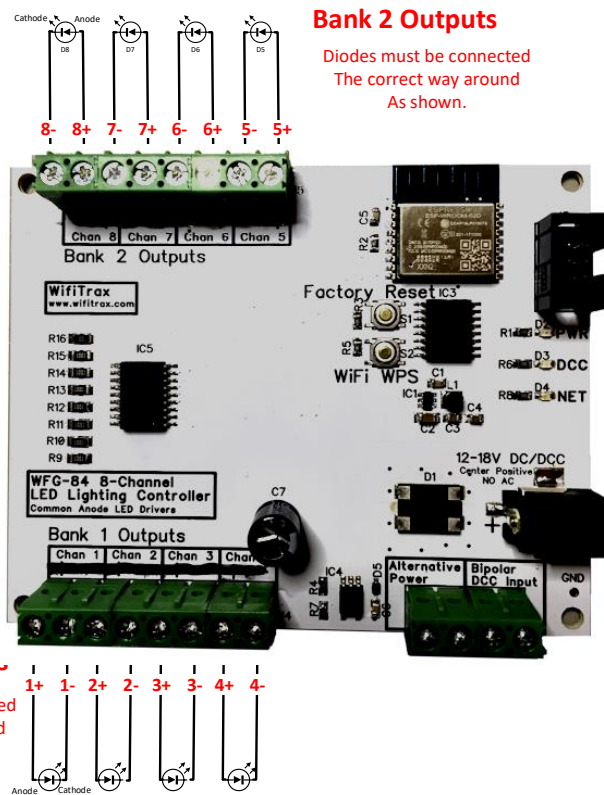
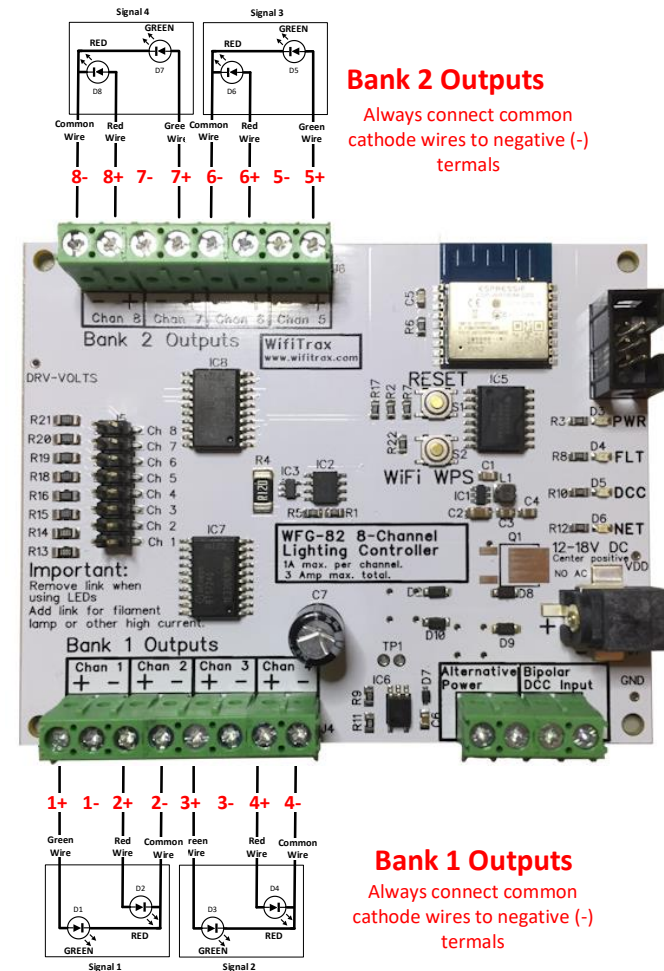
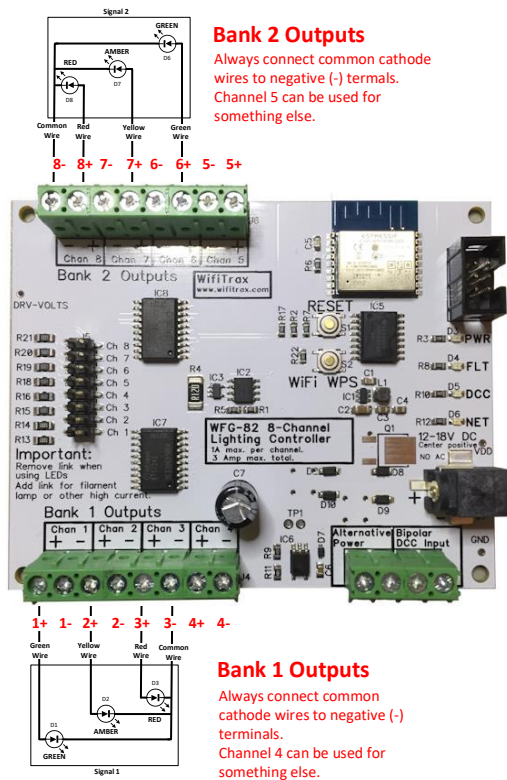

Figure 2. Connection Diagram for LED Lights or filament lamps
Figure 3. Connection Diagram for 2-LED Signals with Common Cathodes
Figure 4. Connection Diagram for 3-Light Signals with common cathodes
Filament lamps are connected the same way as LEDs in Figure 2 but of course, the direction does not matter.
Some signals may contain multiple LEDs or filament lamps such as Red and Green or Red, Amber and Green. Usually one side of each LED will be connected together and to a common wire. WFG-82 only supports LED groups with *Common Cathodes*, i.e. the negative side is common. See Figure 3 and Figure 4. You can use the WFG-84 for those with common anodes.
If you have signals with multiple filament lamps with one side common, there is no such thing as a common cathode or anode. They will be wired the same way as Figure 3, but of course the direction is irrelevant.
- (2) Wire the WFG-82 to your lights or signals according to Figure 2, Figure 3 or Figure 4. If you have multiple types of devices, you can take account of more than one figure. Be sure to connect common wires to the negative side of each of the eight channels, i.e. the cathode of the LED. In the LED circuit symbol, the cathode is the bar as in Figure 2. With filament lamps, the direction does not matter.
- (3) The power adapter must supply between 12 and 18 Volts DC with a Barrel Plug (2.5mm I.D. x 5.5mm O.D. x 9.5mm). A recommended power adaptor is available from WifiTrax: <http://www.wifitrax.com/products/product-PA15-43-1-detail.html> You can also connect to the Alternative Power connectors. **DO NOT CONNECT POWER TO THE WRONG TERMINALS. THIS MAY DAMAGE THE UNIT BEYOND REPAIR.**